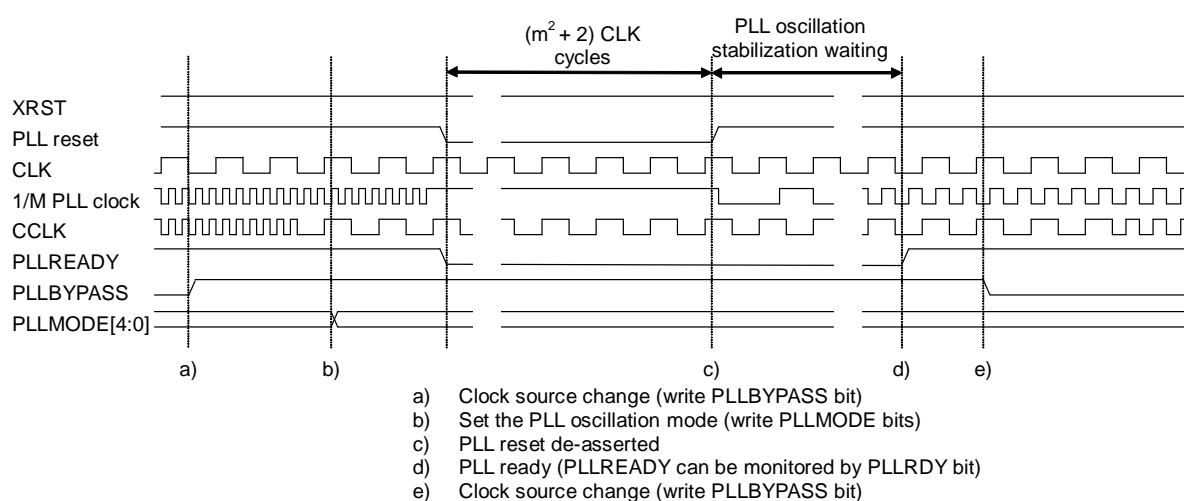

Figure 5-5 PLL oscillation stabilization waiting state by PLL mode change
(2) PLL oscillation frequency is changed by PLL mode ("M" in Figure 5-5 and "m" of LUWMODE in the 5.4.2 PLL control register (CRPR))